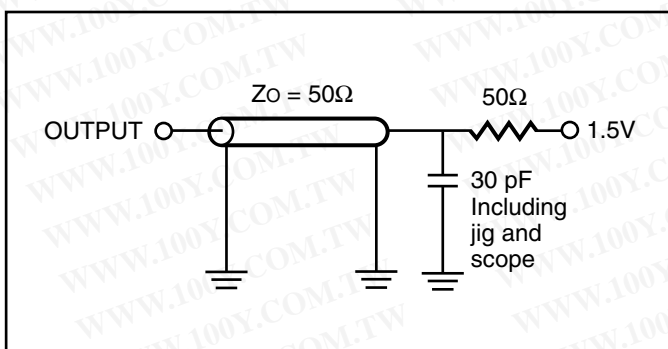

Figure 1.
1. Test conditions assume signal transition times of 3 ns or less, timing reference levels of 1.5V, input pulse levels of 0V to 3.0V and output loading specified in Figure 1.
1. Test conditions assume signal transition times of 1.5 ns or less, timing reference levels of 1.25V, input pulse levels of 0.4V to V_{DD}-0.3V and output loading specified in Figure 1.
1. Test conditions assume signal transition times of 1.5ns or less, timing reference levels of 1.25V, input pulse levels of 0.4V to V_{DD}-0.3V and output loading specified in Figure 1.